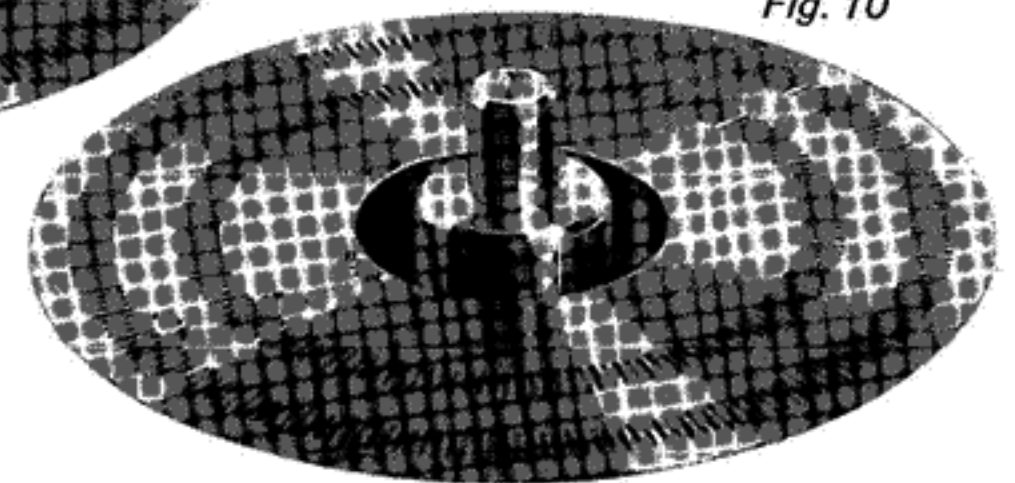

Fig. 10
- c Fit single record spindle (Fig. 10).